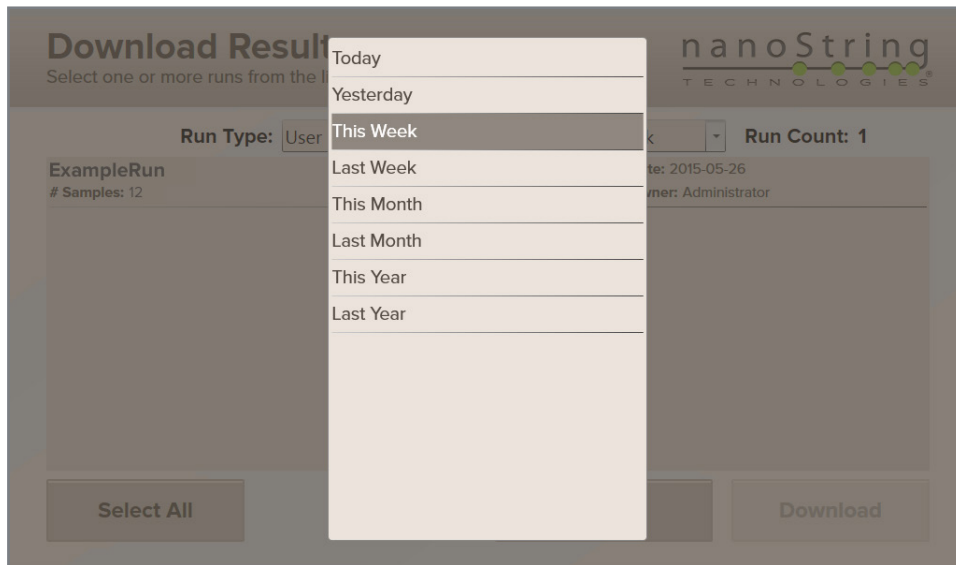

FIGURE 6.18 Results can be filtered by date.
3. All data that have been processed and are available will be displayed on this screen. To select a run for download, touch the run name on the screen. One or more runs may be selected by touching each name. To deselect a run, touch it again. Use the **Date Filter** to select a different period if trying to access older runs (**FIGURE 6.18**).